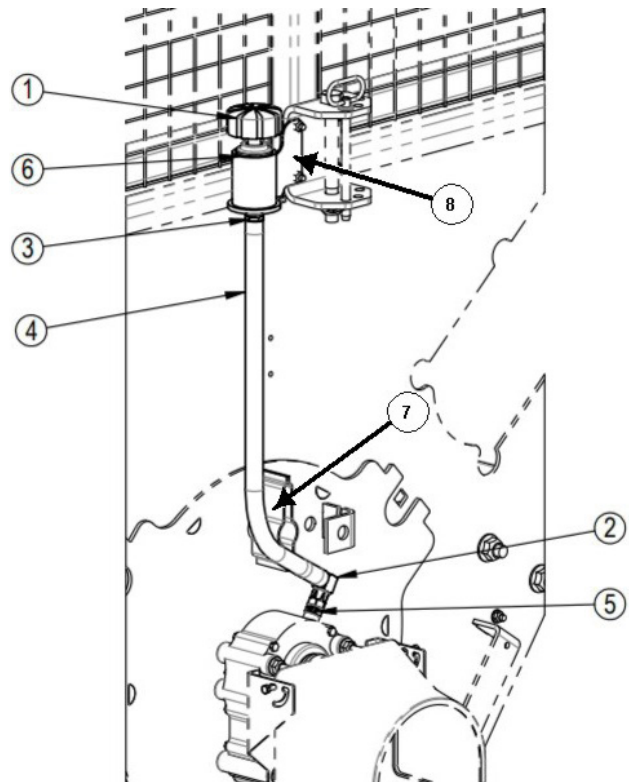

Figure 1: Install breather extension
1. Connect the expansion tank (6), breather cap (1) and hydraulic fitting adapter (3) together, see Table 1 and Figure 1.
2. Fasten the breather extension mount (8) to the machine using existing hardware, see Figure 1.
4. Connect the hydraulic fitting adapter (5) to the gearbox, see Figure 1.
5. Loosely attach the 90° elbow (2) to the adapter (5) on the gearbox, see Figure 1.
6. Attach the hydraulic hose (4) to the elbow (2) and the hydraulic fitting adapter (3) that was previously mounted, see *Figure 1*.
7. Ensure the hydraulic hose is clear of the knife relief (7), see *Figure 1*.